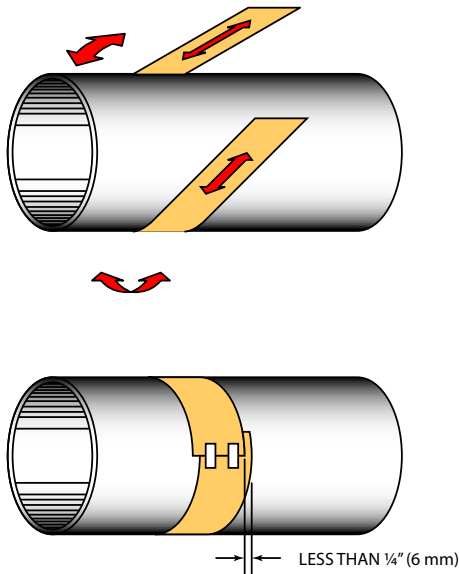

Figure 23: Paper template alignment
1. Wrap the paper around the pipe in the manner shown in Figure 23. Align the paper ends to within 1/4 inch (6 mm).